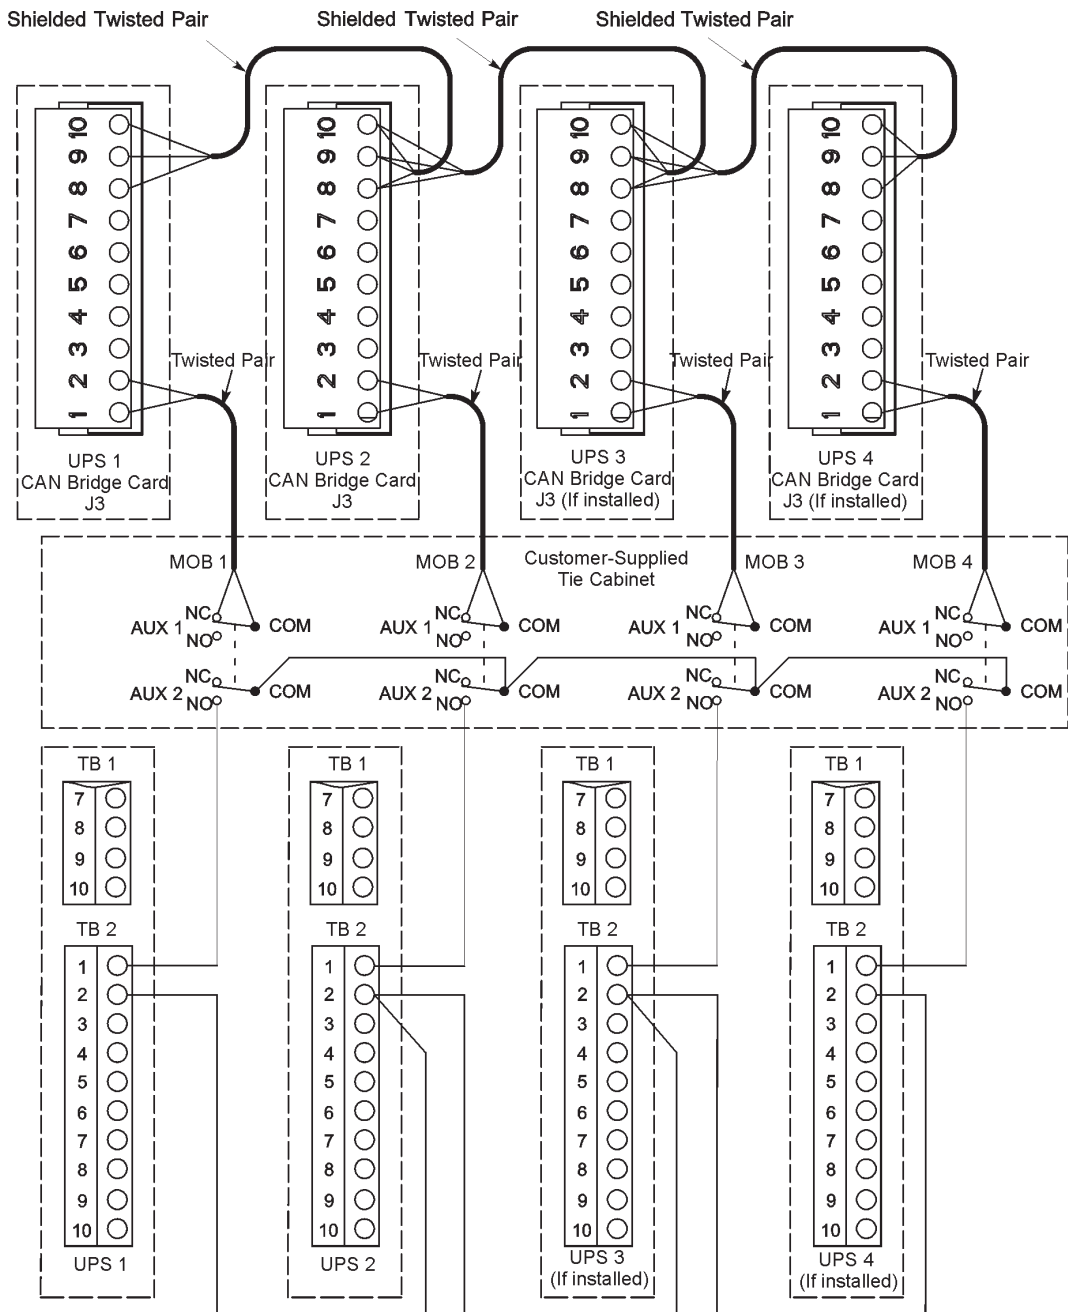

Figure 5-6. Distributed bypass Pull-Chain wiring with MOB
11. Route and install distributed bypass system pull-chain wiring between the UPS cabinets and tie cabinet MOBs. See Figure 5-6 on page 53 and Table 5-4 on page 54 for wiring information.